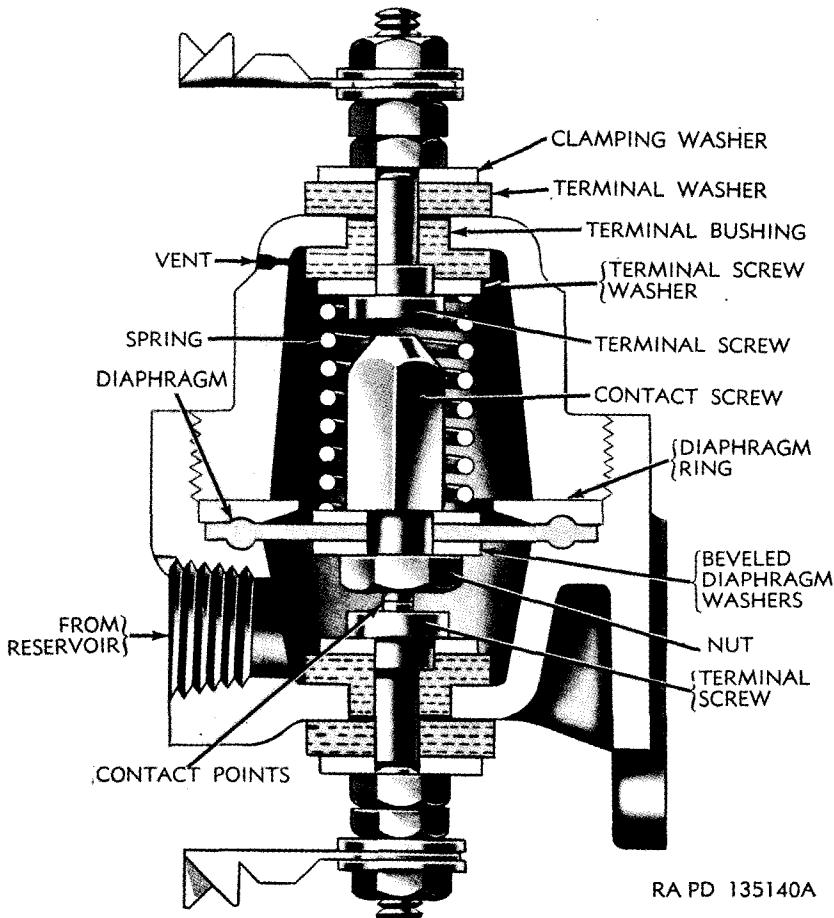

Figure 219. Type LP-1 10-in pressure warning switch—sectional view.
c. *Operation* (figs. 219, 220, and 221). When reservoir pressure below the diaphragm is below approximately 60 psi, the spring keeps the electrical contacts closed and the circuit to warning buzzer or light is completed through the spring to upper terminal. When reservoir pressure rises above approximately 60 psi, the spring load on diaphragm is overcome, separating contacts, and circuit is open. The normal pressure setting of 60 psi is subject to a tolerance of plus or minus 6 pounds so that the actual operating point may vary between a maximum of 66 pounds and a minimum of 54 pounds.
(1) *Type LP-1* (figs. 219 and 222). Select lower terminal screw having contact point. Install special washer with **D** shaped hole on contact screw. Then install fiber terminal bushing on contact screw with **D** shaped hole positioned to fit over the **D** shaped shoulder under the head of the screw. Place terminal screw with washer in place in the body, positioning the square shoulder of the terminal bushing to fit in the square
- (1) *Type LP-1* (figs. 219 and 222). Place beveled diaphragm washer on contact screw so that the flat side of the washer is against the shoulder of the screw. Place diaphragm on screw and then install other beveled diaphragm washer so the beveled side is next to the diaphragm. Install nut on contact screw and tighten nut sufficiently to make an airtight seal between the washers and the diaphragm. If the contact screw nut is tightened too tightly, the diaphragm will be distorted. Prick punch the threads of the screw to lock the nut in place.